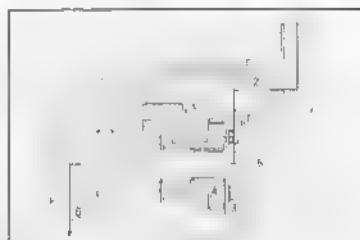

Fig. 3.93 Low gear
2. Operation (IC 90)**Low:** (Fig. 3.93)